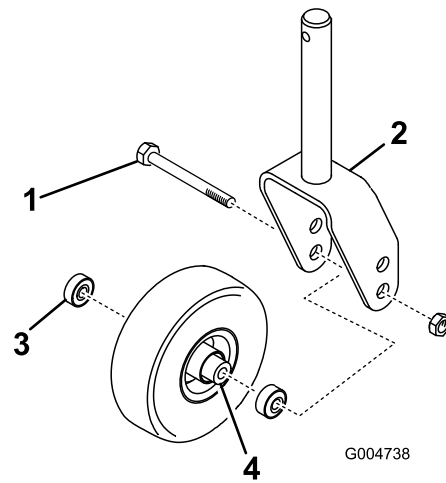
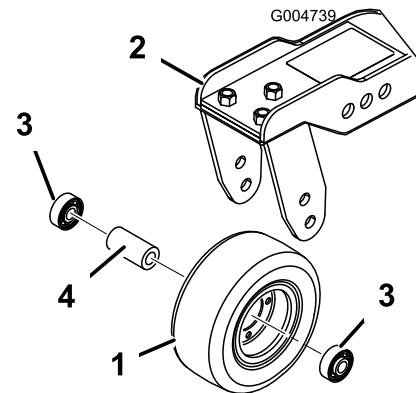

Figure 113
Figure 114
1. Remove the locknut from the bolt holding the caster-wheel assembly between the caster fork (Figure 113) or the caster-pivot arm (Figure 114).
2. Remove the bearing from the wheel hub and allow the bearing spacer to fall out (Figure 113 and Figure 114).